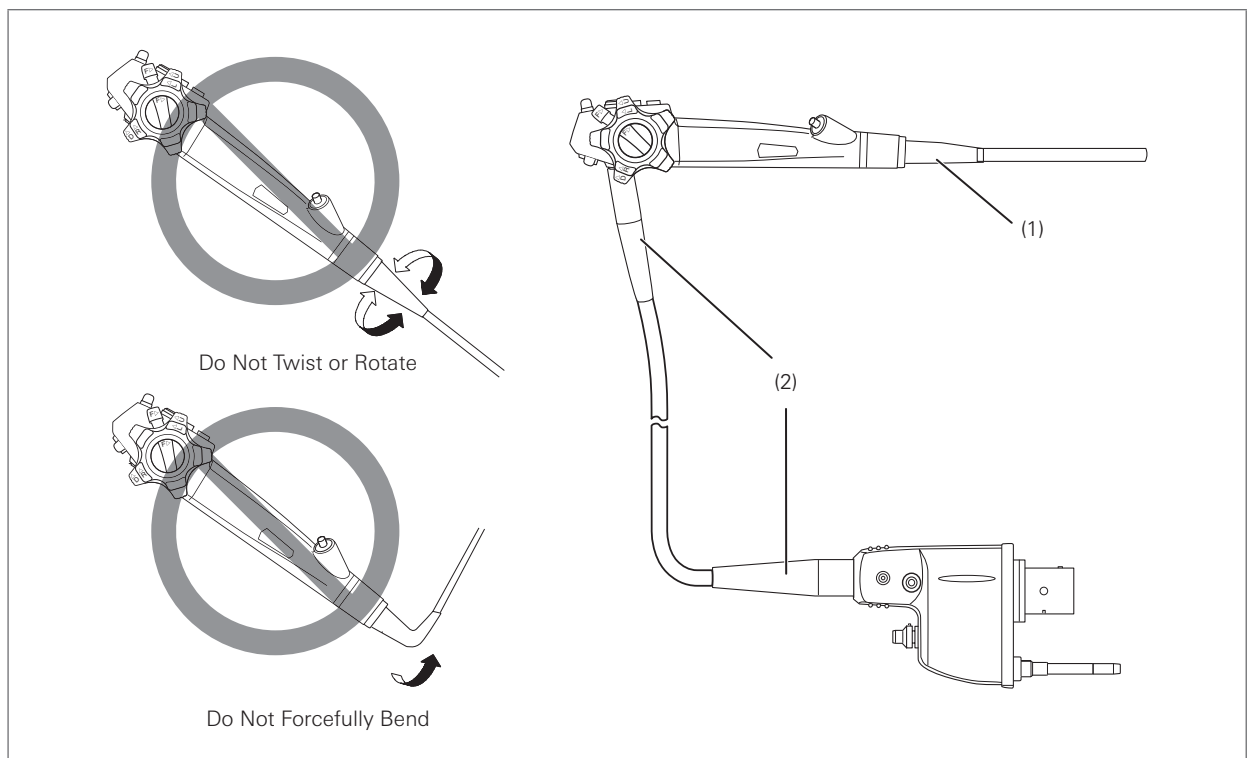

Figure 3.2
- Do NOT excessively twist, bend, or rotate any of the strain relief boots on the instrument (See Figure 3.2 (1) and 3.2 (2) to identify the strain relief boots). Doing so may result in instrument damage. Pay special attention to the careful handling of the strain relief boot of the insertion portion (See Figure 3.2 (1)) of the endoscope, because it has a small diameter and is more likely to suffer damage due to mishandling.